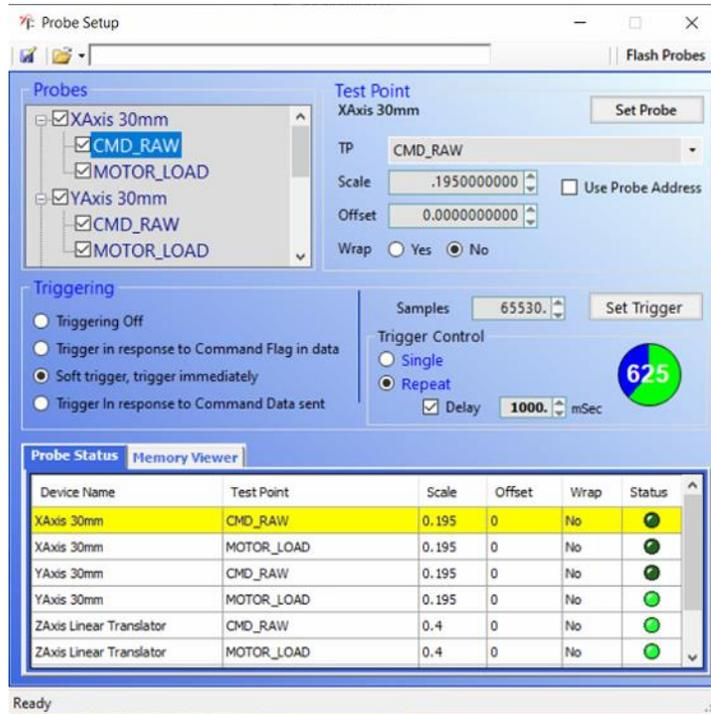

Figure 42: Setting up the probes
The *Probe Setup* window opens; see Figure 42 on page 87.
- Use the settings shown in Table 14 on page 87 and Table 15 on page 88 to setup the Probes so that it looks similar to that shown in Figure 42 on page 87.